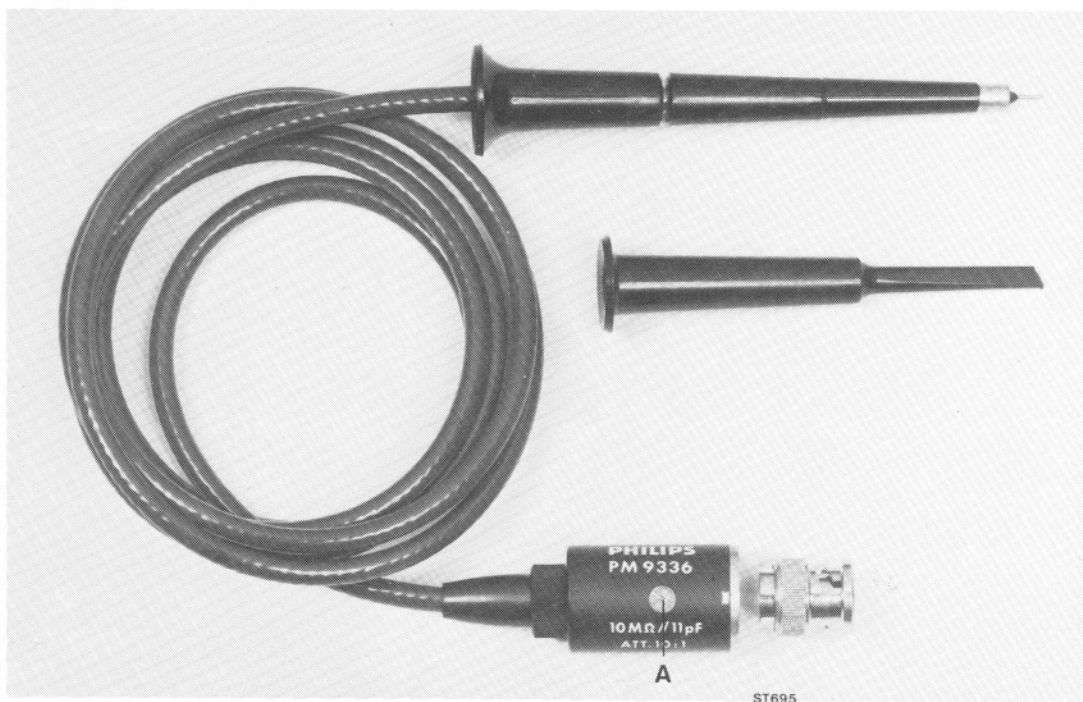

Fig. 1.
- Measuring probe (10:1) PM 9336 (fig. 1 page 22)
- Adjust the probe by means of adjusting screw "A", fig. 1 (page 22).